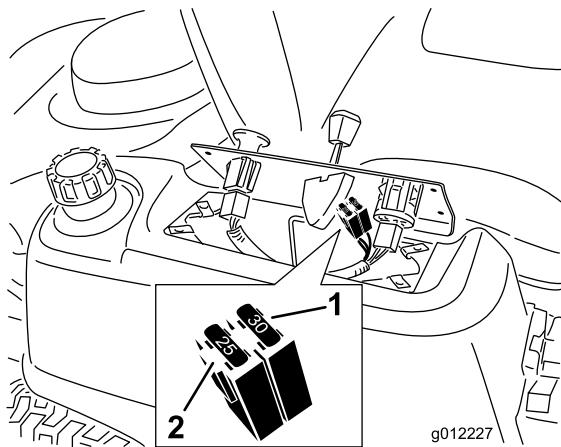

Figure 37
2. Lift the control pane up to access the main wiring harness and fuse block (Figure 37).
3. To replace a fuse, pull out on the fuse to remove it (Figure 37).